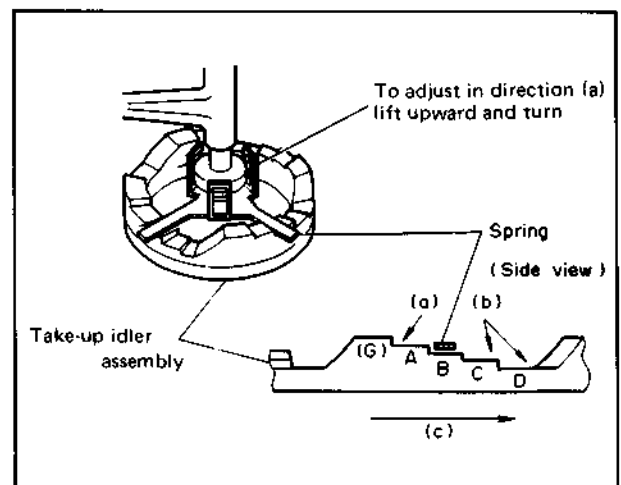

Fig. 5-14 Take-up idler assembly
6. If the take-up torque is less than proper, adjust the position of the take-up idler assembly spring in the direction of arrow (a) as shown in Fig. 5-14, then again measure the take-up torque.
7. If the take-up torque is greater than proper, change the spring position toward arrow (b) direction as shown in Fig. 5-14, then again measure the take-up torque.